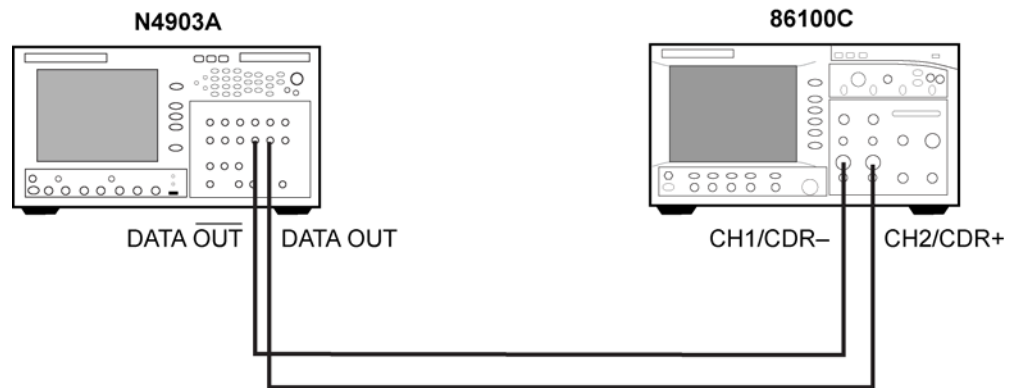

Figure 4-2. N4903A Connected to the 86100C
- 1 Connect the source instrument directly to the 86100C. Do not connect the DUT at this time. Figure 4-2 shows the connection if you are using an N4903A. If you are using separate jitter and data sources, connect the equipment as shown in the example of Figure 4-3. Connect the source's output signal to the appropriate input on the 86100C clock recovery input as described in “Clock Recovery Inputs” on page 4-12.